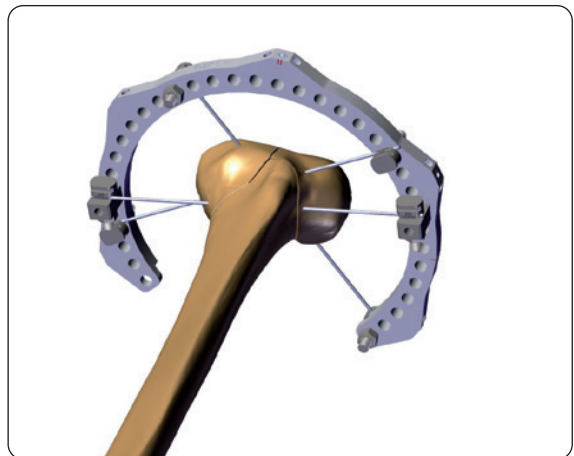

Fig. 6
**PRECAUTION:** To avoid causing injury, the ends of wires should be protected with special covers or bent at the ends as soon as they are tensioned (**Fig. 6**).